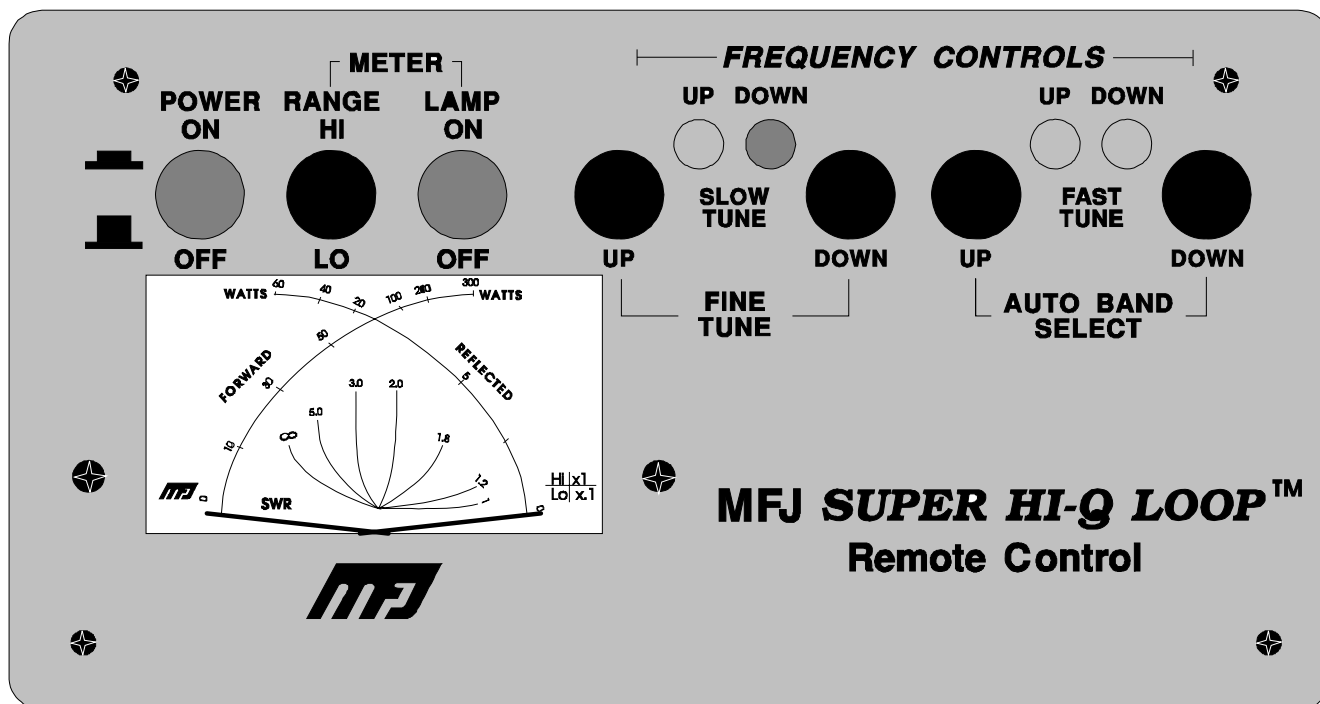

Figure 6
- 1.) Connect the loop feedline to the proper connector on the rear panel of the control head. **FAILURE TO CONNECT THE COAXIAL LEADS TO THE CORRECT CONNECTORS ON THE CONTROL HEAD CAN DAMAGE THE CONTROL HEAD OR OTHER EQUIPMENT!** See figure 6. Be sure the cable to the transceiver and the power supply (if used) are connected.